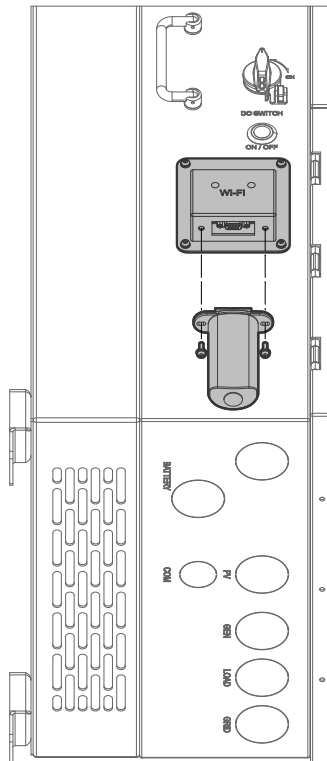

Figure 41: Connecting Wi-Fi dongle to Sol-Ark 15K-2P-N
- C. Reassemble the dongle housing and plug the dongle into the Sol-Ark. Secure with screws (see figure 41). You will see solid red and green lights after a couple of minutes.